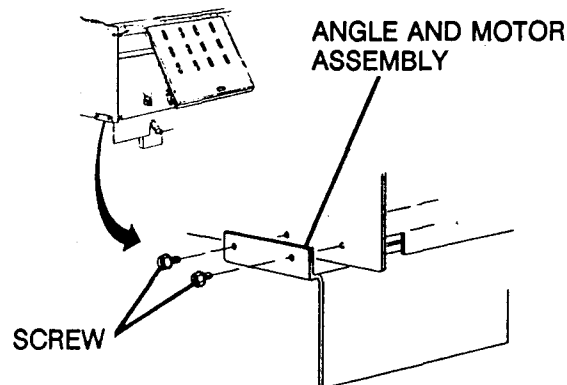

FIGURE 1. Angle and Motor Assembly Mounting
1. Attach the Angle and Motor Assembly to the bottom of the delivery pan assembly. Secure the Angle and Motor Assembly to the delivery pan using four screws (Index 1) as shown in Figure 1.